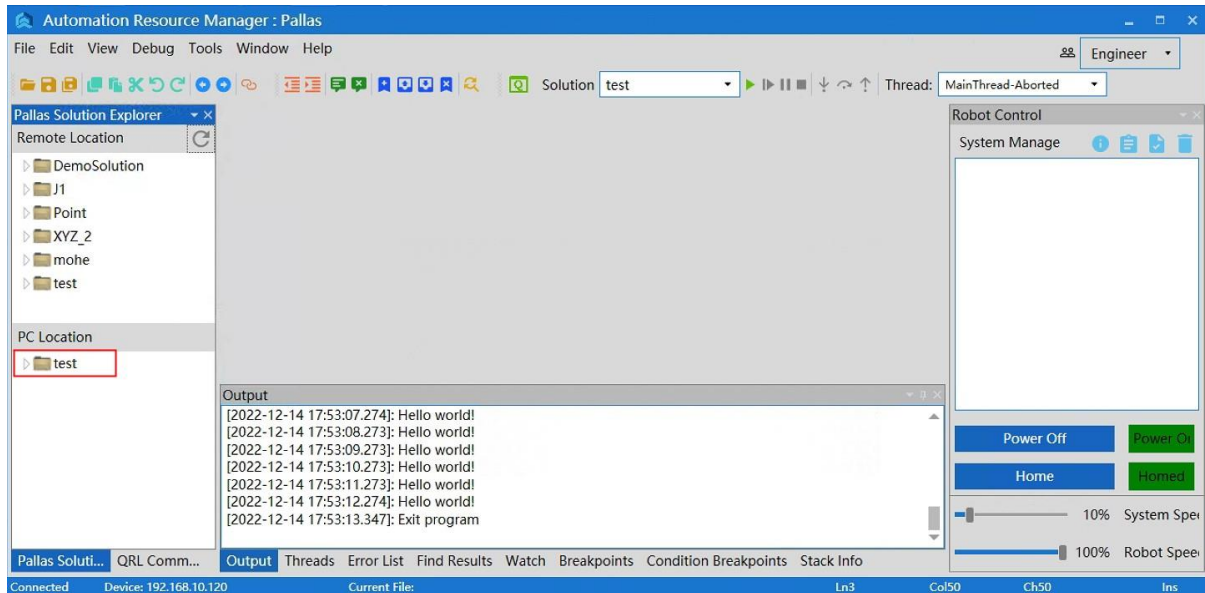

Figure 6-45 "PC Location" file interface
Step 4 After completion, the file will appear in "PC Location", and the program file will also appear in the corresponding save path, as shown in Figure 6-45.